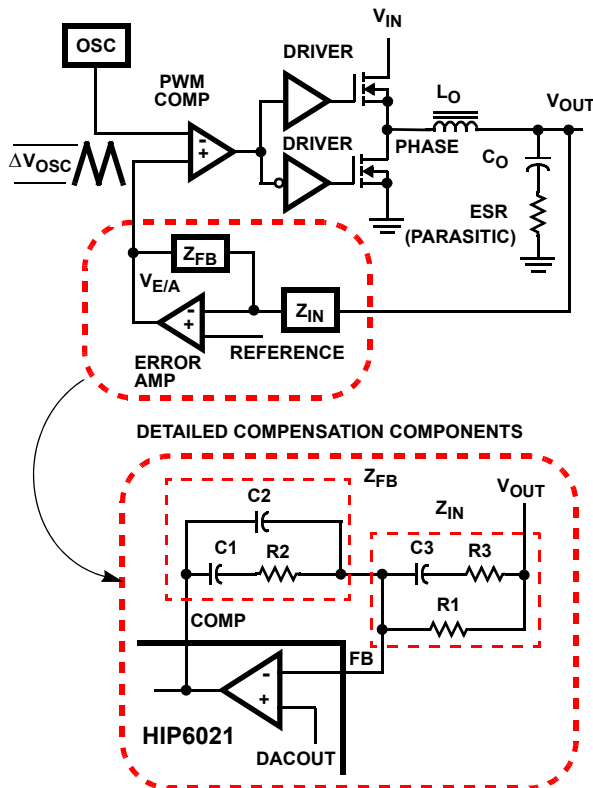
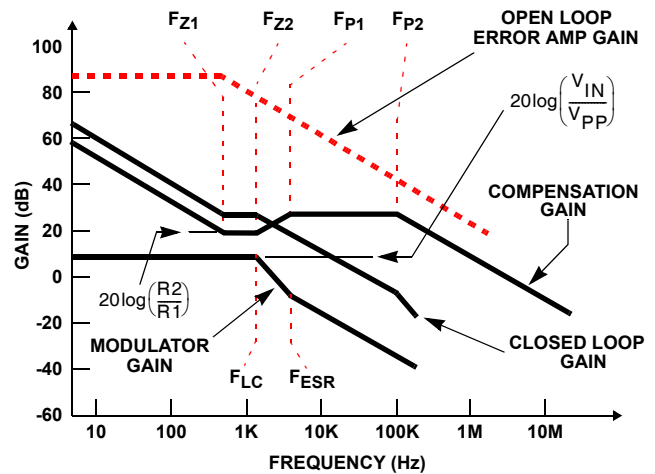

FIGURE 9. VOLTAGE-MODE BUCK CONVERTER COMPENSATION DESIGN
FIGURE 10. ASYMPTOTIC BODE PLOT OF CONVERTER GAIN
Figure 9 highlights the voltage-mode control loop for a synchronous-rectified buck converter. The output voltage (V_{OUT}) is regulated to the Reference voltage level. The reference voltage level is the DAC output voltage (DAC_{OUT}). The error amplifier (Error Amp) output (V_{E/A}) is compared with the oscillator (OSC) triangular wave to provide a pulse-width modulated (PWM) wave with an amplitude of V_{IN} at the PHASE node. The PWM wave is smoothed by the output filter (L_O and C_O).
Figure 10 shows an asymptotic plot of the DC-DC converter's gain vs. frequency. The actual Modulator Gain has a high gain peak dependent on the quality factor (Q) of the output filter, which is not shown in Figure 9. Using the above guidelines should yield a Compensation Gain similar to the curve plotted. The open loop error amplifier gain bounds the compensation gain. Check the compensation gain at F_{P2} with the capabilities of the error amplifier. The Closed Loop Gain is constructed on the log-log graph of Figure 10 by adding the Modulator Gain (in dB) to the Compensation Gain (in dB). This is equivalent to multiplying the modulator transfer function to the compensation transfer function and plotting the gain.